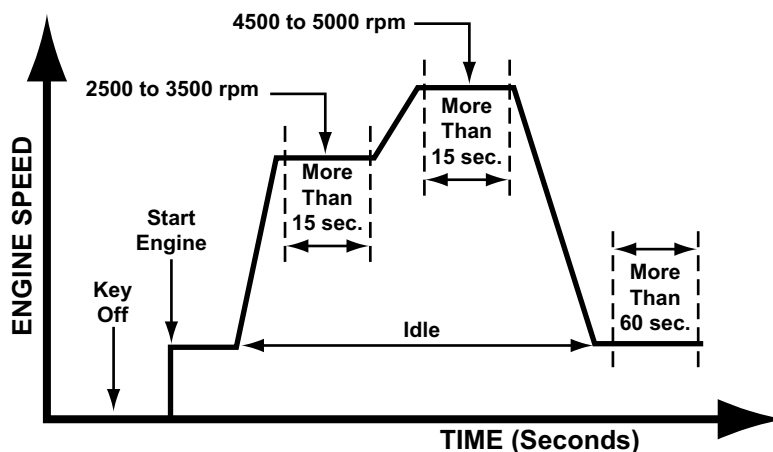

Figure MA000-23
3. Perform no load racing at the RPM shown in Figure MA000-23, then idle the engine for more than 20 seconds after the cooling fan has stopped. If possible, monitor RPM PID for engine speed during this procedure.